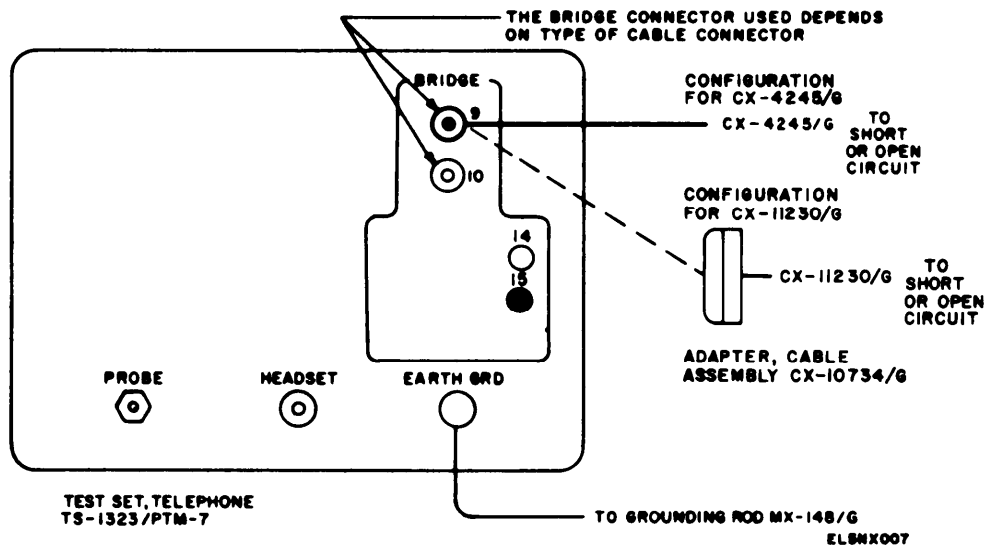
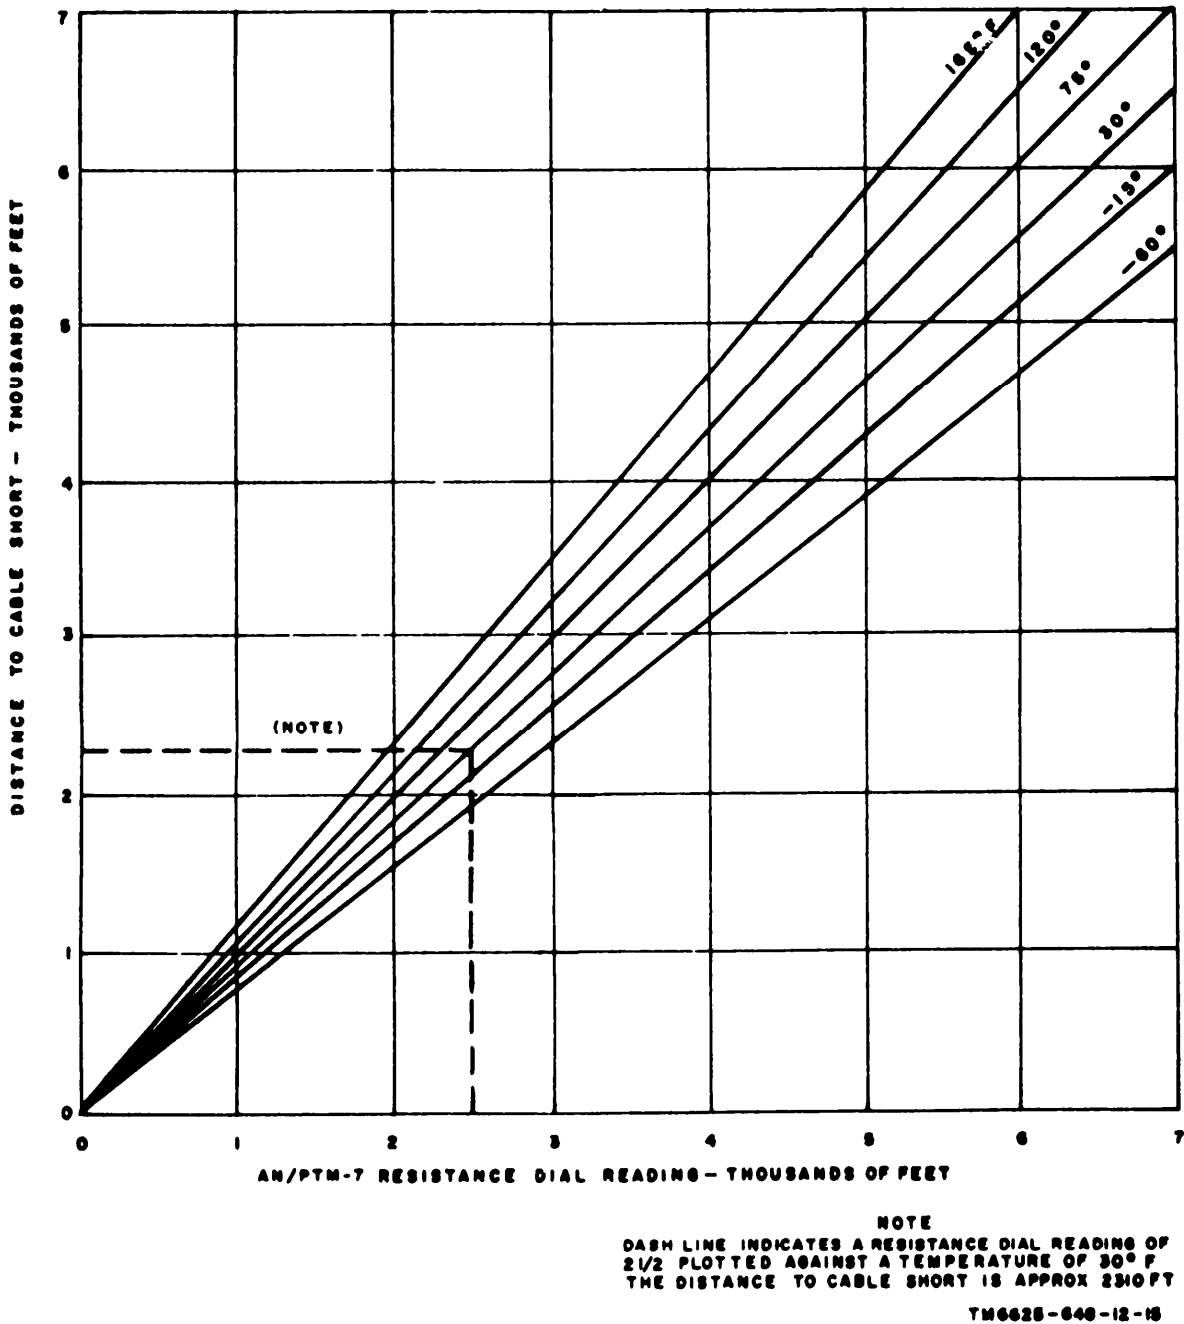

Figure 3-9. Normal CX-4245/G connections for bridge-circuit operation.
Figure 3-11. CX-4245/G resistance/temperature compensation curves.
(*a*) Connect the suspected CX-4245/G to the TS-1323/PTM-7 as shown in figure 3-9 or 3-10.
- (d) The pointer of the DISTANCE TO FAULT control knob will indicate the approximate distance to the short circuit (in thousands of feet) as indicated by the RES scale (outer scale). The CX-4245/G resistance will vary with changes in the ambient temperature. The results obtained should be plotted against the temperature-compensation curves shown in figure 3-11. The DISTANCE TO FAULT control may be read directly if the cable temperature is 75° F.
- (2) *Open-circuit checks.*
- (a) Connect the suspected CX-4245/G to the TS-1323/PTM-1 as shown in figure 3-9 or 3-10.